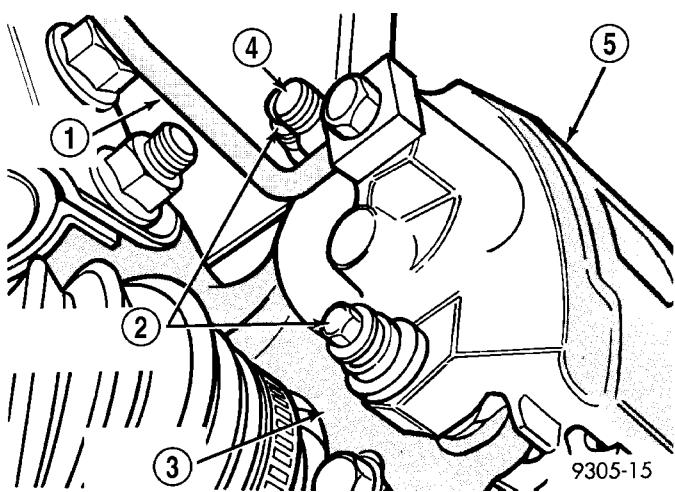

Fig. 3 Disc Brake Caliper Mounting
- (1) Raise vehicle on jackstands or centered on a frame contact type hoist.
- (2) Remove the front wheel and tire assembly from the vehicle.
- (3) Remove the front caliper assembly from the front steering knuckle assembly (Fig. 3).